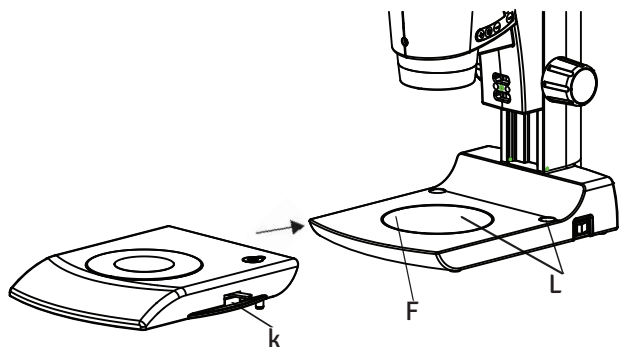

Fig.5
1. Remove Black & White specimen plate from base pressing the plate as shown in fig. 5.
2. Place the Dark Field Base gently on to the Luxeo 6z base by matching the Guide pins of Dark Field base (K) with the Guide holes (L). Refer fig.5.
3. The 9 pin male connector below dark field base will automatically connect to the female 9 pin inlet (F) while lifting up the disc gently on the Luxeo 6z base. Refer fig. 5 & 6.